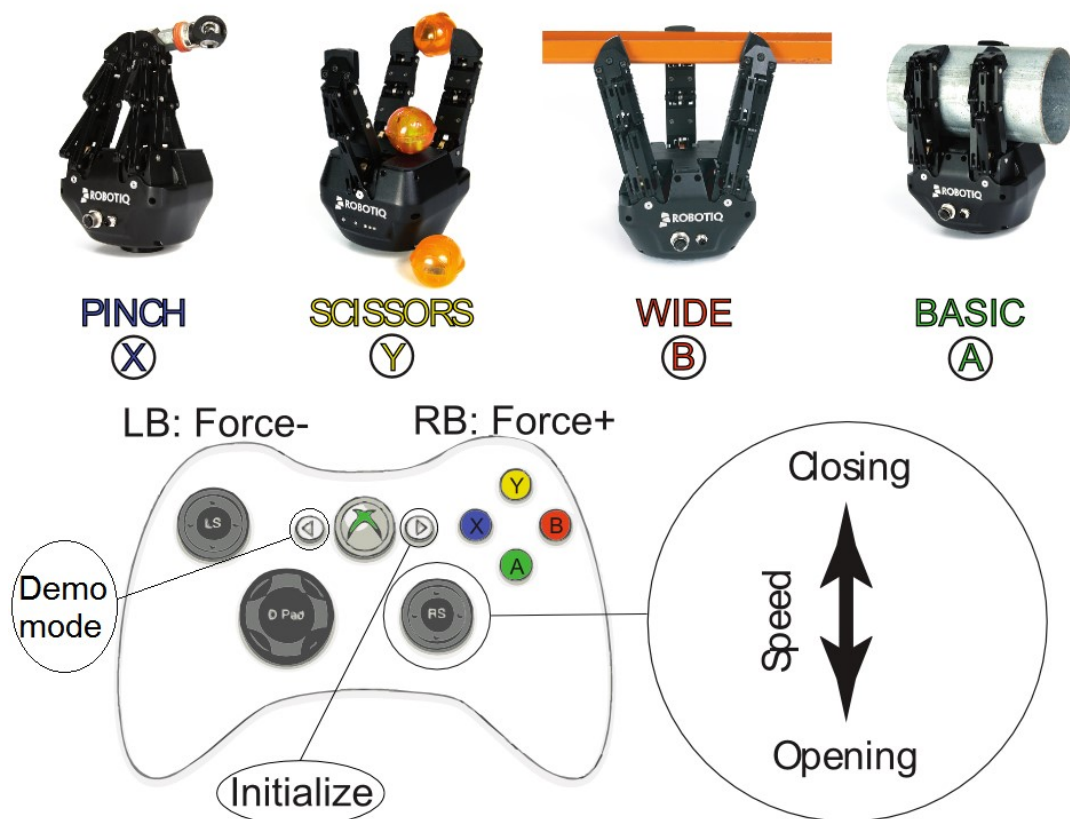

Figure 5.1.2.1 : Xbox Controls for the 3-Finger Adaptive Robot Gripper.
- **Xbox Joystick control** allows control of the Gripper using a remote Xbox controller (see Figure 5.1.2.1 for a summary of the available controls).